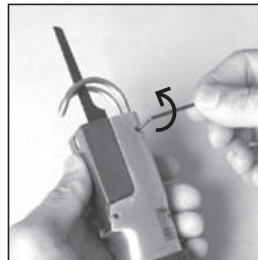

Figure 10
1. Loosen the two set screws (Part #34) on both sides by rotating it counterclockwise with the provided hex key. (See Figure 10)